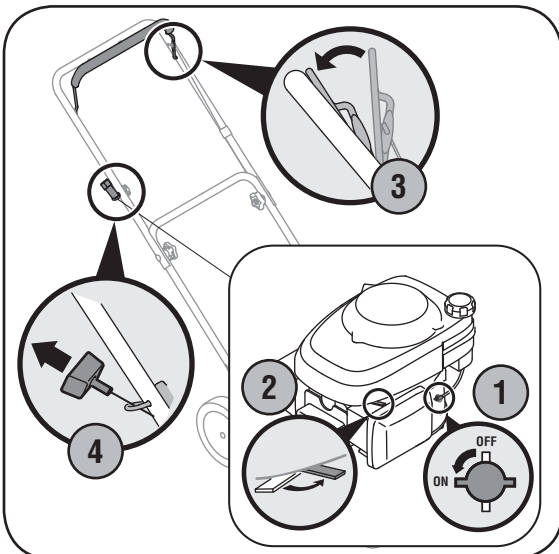

Figure 2
1. Place the fuel valve lever found on the left side of the engine into the ON (OPEN) position, Figure 2.
3. Standing behind the mower, squeeze the blade control against upper handle, Figure 2. The choke will now begin to slowly return to the off choke position after activating the blade control. Therefore, quickly move onto step four below.
4. Holding these two handles together firmly, grasp recoil starter handle and pull rope out with a rapid, continuous, full arm stroke, Figure 2. Keeping a firm grip on the starter handle let the rope rewind slowly. Repeat until engine cranks. Let the rope rewind each time slowly.